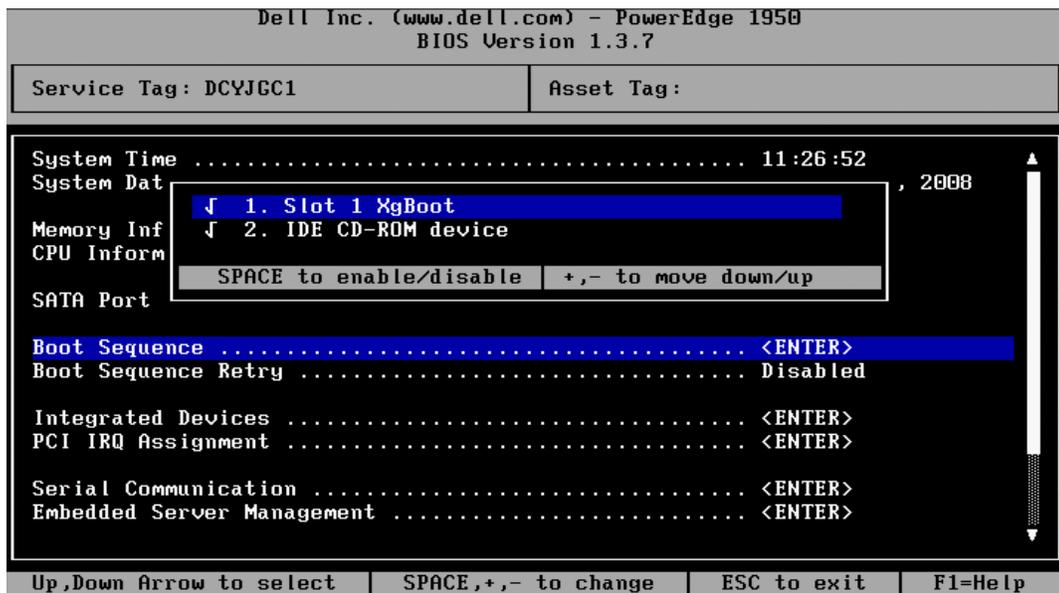

Figure 1 Dell 1950 BIOS, Slot 1 XgBoot HCA
2. BIOS reads the boot sequence, where the XgBoot for the Xsigo HCA should be the first bootable device in the list, as shown in Figure 1.